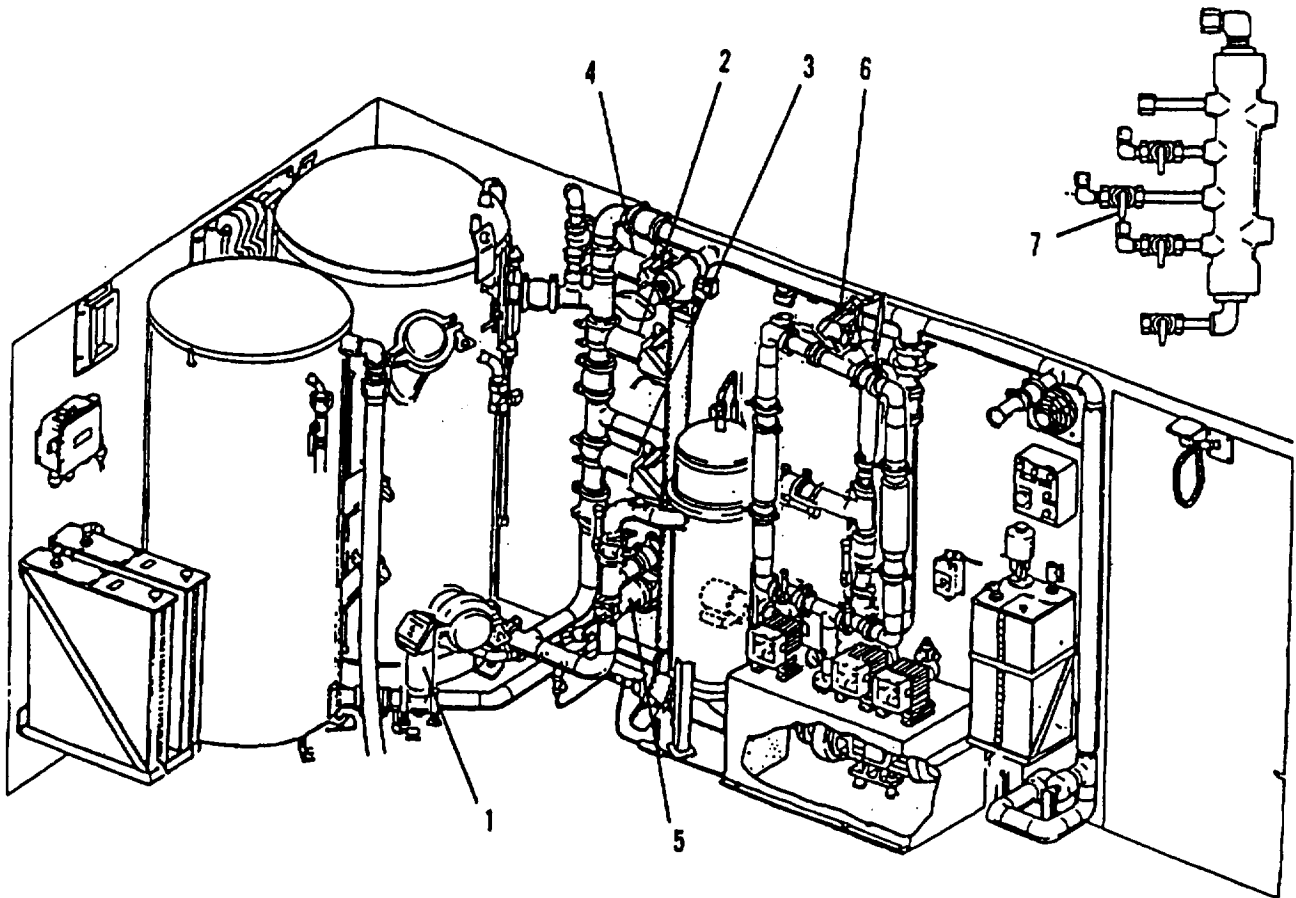

Figure 2-76.2. Manually Operated Automatic Valve Position (MODEL ROWPU-1 ONLY)
- (4) Filter Normal Valve Positions (Figure 2-76.2). Position the manually operated automatic valve(s) according to positions listed below and then follow normal start-up procedures (para. 2-17).
- (a) Clean/flush outlet valve (1) - closed.
- (b) Media filter inlet valve (2) - open.
- (c) Media filter backwash inlet valve (3) - closed.
- (d) Media filter backwash outlet valve (4) - closed.
- (e) Media filter outlet valve (5) - open.
- (f) Media filter flush valve (6) - open initially. Closed after forward flush on start-up.
- (5) System Clean Valve Positions.
- (a) Clean/flush tank outlet valve (1) - open.
- (6) Shutdown. When the ROWPU is shut down and drained, open all manually operated automatic valves to allow complete drainage.